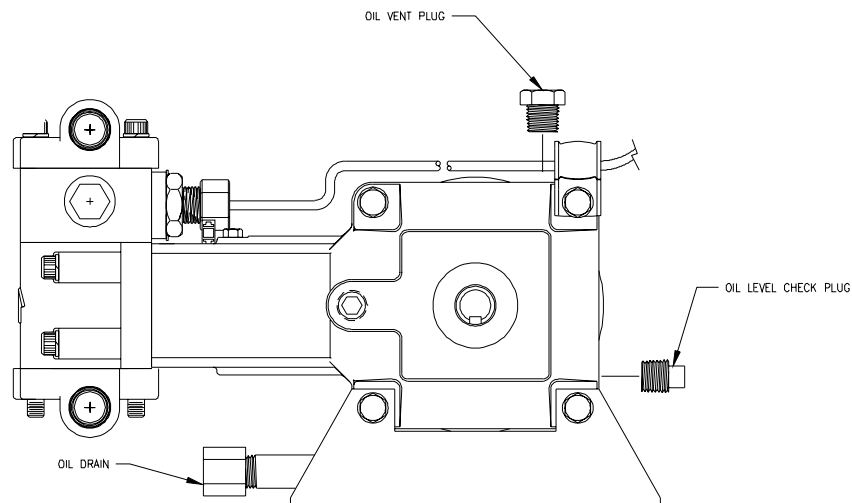

FIGURE 14
- 4) Check oil level in Injection Pump daily. If addition of oil is required, add Mobil #1 (5W30) ONLY. Drain and refill the pump after every 150 hours of operation. (See Figure 14).